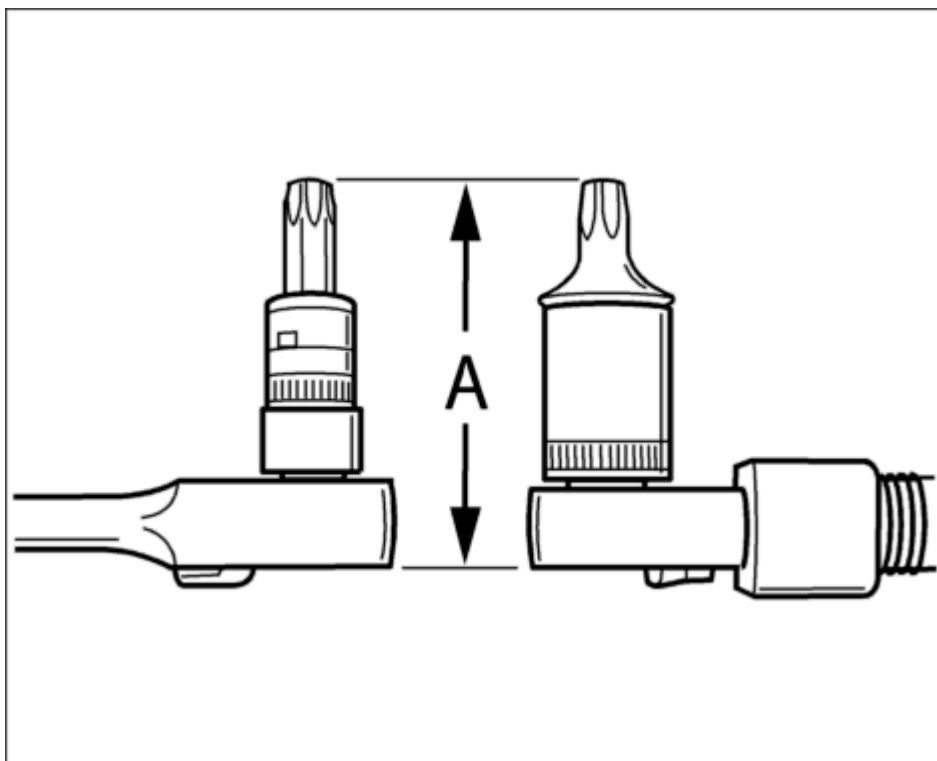

Fig. 433: Tool height
- It is best to use a tool that has an head height of less than 50 mm -A- (see special tools) to loosen and tighten the rear fastening screw of the cylinder head cover close to the plenum panel. See **Fig. 433.**
- It is best to use a tool that has an head height of less than 50 mm -A- (see special tools) to loosen and tighten the rear fastening screw of the cylinder head cover close to the plenum panel. See Fig. 433.